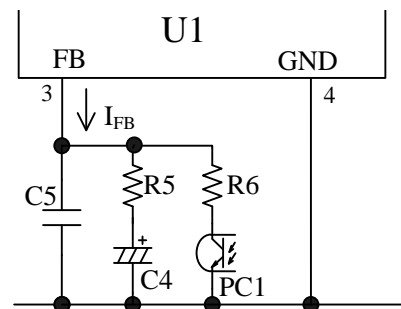
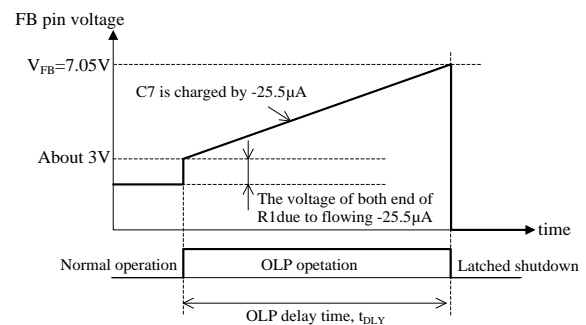

Figure 8-29 FB pin peripheral circuit
Figure 8-30 OLP operation
Figure 8-29 shows the FB pin peripheral circuit, Figure 8-30 shows the FB pin waveform at Overload Protection (OLP) operation.
Given the time that until the FB pin voltage reaches to V_{FB} as the OLP delay time, t_{DLY} (refer to Figure 8-30). t_{DLY} is calculated Equation (18).